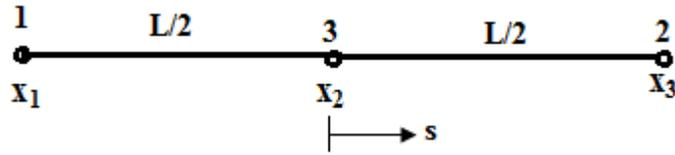

Figure 6b
b) For the three-noded iso-parametric bar element shown in Figure 6b, show that the Jacobean determinate is $|J| = L/2$. Also determine the shape functions $N1 - N3$ and the strain-displacement matrix $[B]$. Assume the displacement field as $u = a1 + a2s + a3s^2$.